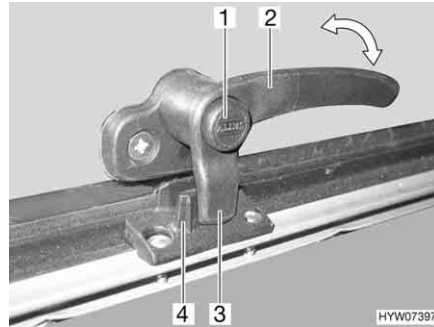
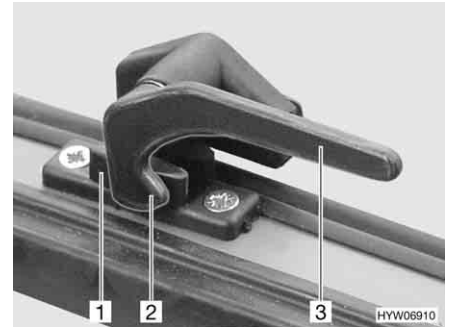

Fig. 68 Catch lever with safety knob in "closed" position
Fig. 69 Catch lever in "closed" position
- Press and hold the security button (Fig. 68,1), if present.
- Turn the catch lever (Fig. 68,2 or Fig. 69,3) a quarter turn towards the centre of the window.
- Turn the catch lever (Fig. 68,2 or Fig. 69,3) a quarter turn towards the window frame. The locking catch (Fig. 68,3 or Fig. 69,2) on the catch lever is entirely on the inner side of the window catch (Fig. 68,4 or Fig. 69,1).
- Firmly closed (Fig. 68 and Fig. 69)